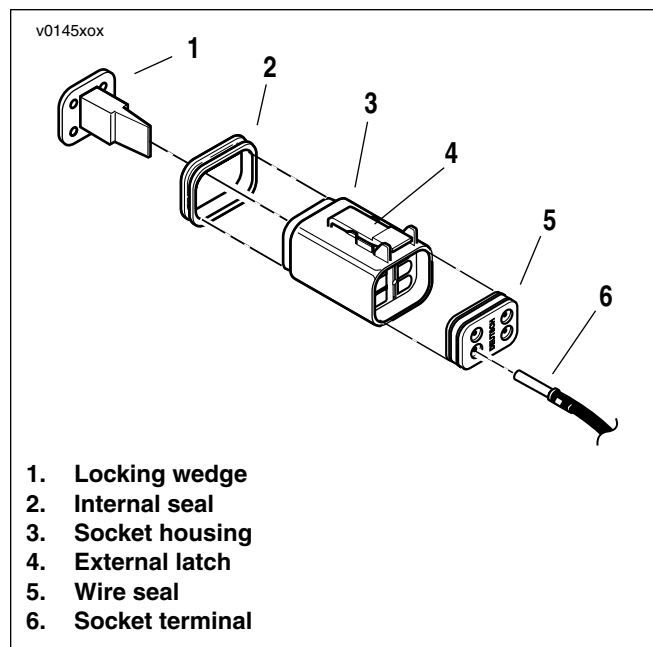

Figure 8-6. Deutsch Socket Side Connector (4-pin connector illustrated)
- a. See Figure 8-6. Use a screw driver to pry out the locking wedges (1). See DEUTSCH ELECTRICAL CONNECTORS in VRSC Models Service Manual.